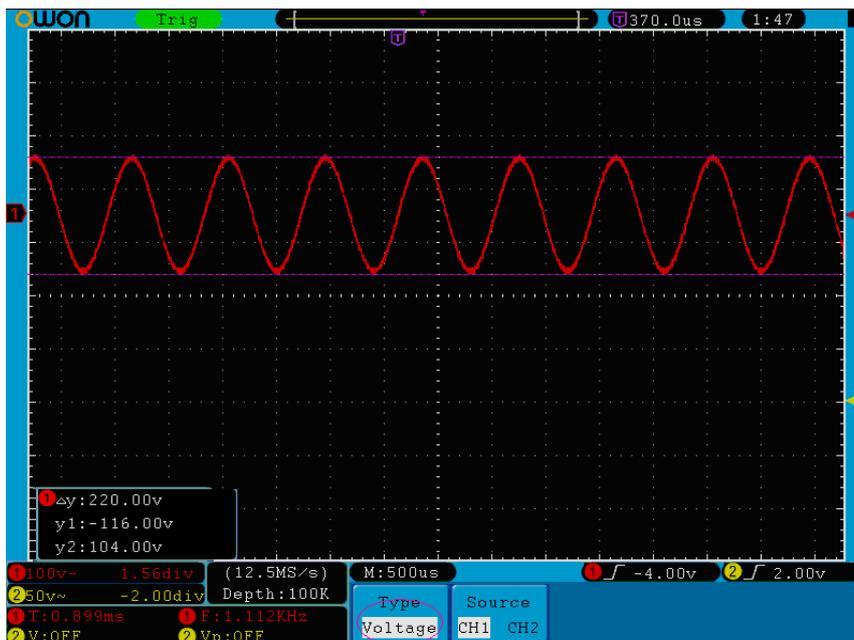

Figure 5-56 Waveform of Voltage Cursor Measurement
4. According to the measured waveform, adjust the positions of Cursor1 and Cursor2 by turning the **VERTICAL POSITION** knob of CH1 and CH2. Cursor increment window at the left bottom of waveform shows absolute value of D-value of cursor 1 and cursor 2 and the present position of the two cursors (see *Figure 5-56*).